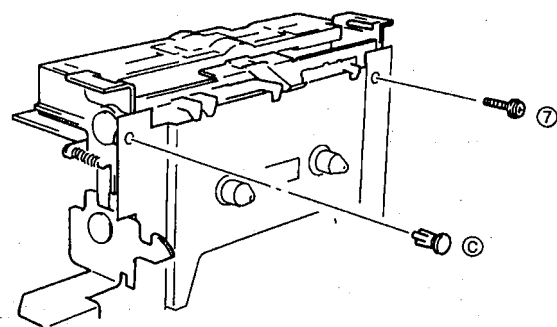

Fig. 7
- Remove 1 screw (⑦) and 1 plastic rivet (⑧) and then remove the Back Plate in Fig. 7.